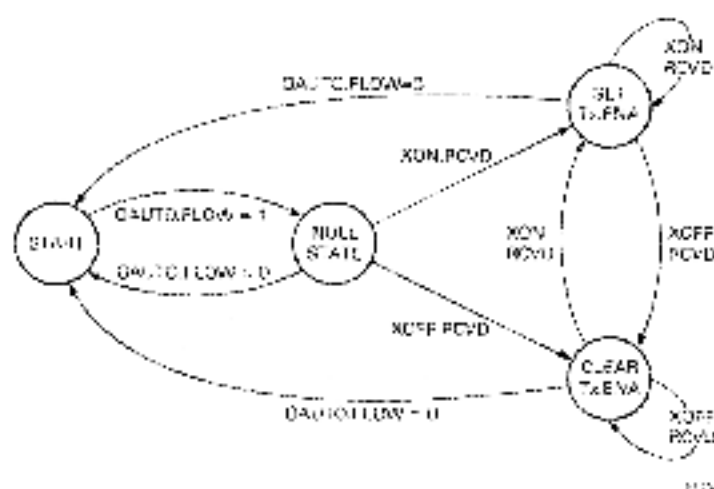
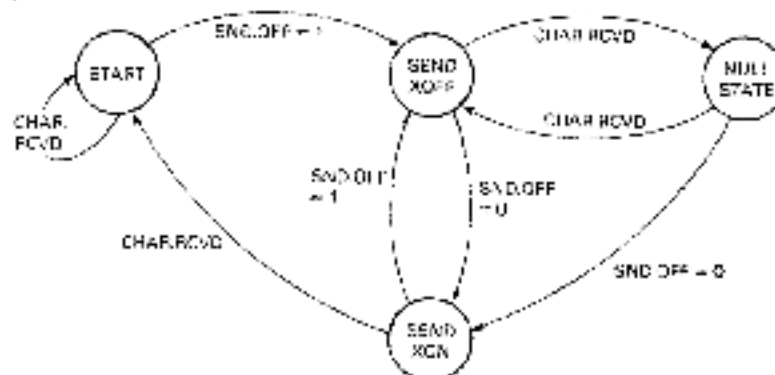

Figure 3-4 Automatic Flow-Control of Transmitted Characters
Figure 3-6 Program Initiated Flow-Control
3.4.9.5 Flow-Control State Diagrams – State diagrams for DMB32 flow-control operations follow. Figures 3-4 and 3-5 are for auto-flow of transmitted and received data. Figure 3-6 is for program initiated flow-control by the SndOFF bit.